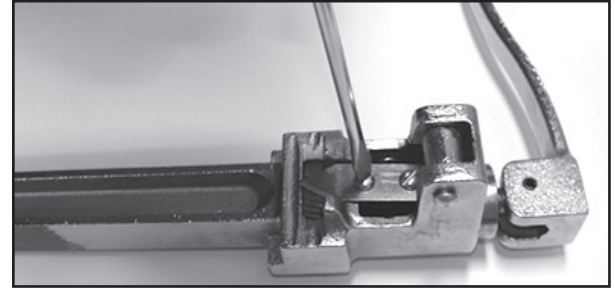

Figure 13
1. Make sure handle is raised before removing the two screws holding the old knife blade. (Figure 13)